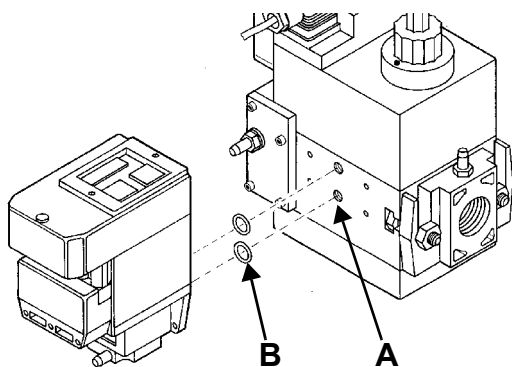
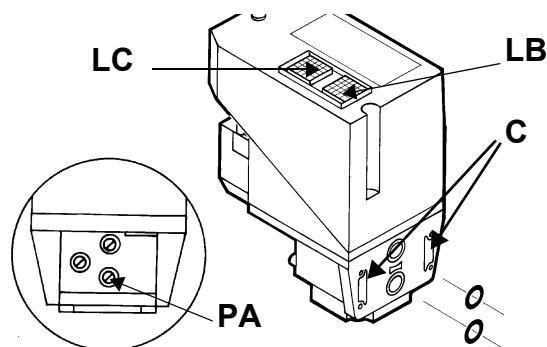

Fig. 10
Fig. 11
- 3 remove the Multibloc screw plugs (Fig. 10-A);
- 4 insert sealing rings (10,5 x 2,25) into VPS 504 (Fig. 10-B - Fig. 11)
- 5 Torque screws 3, 4, 5, 6 (M4 x16) Fig. 11-C
When wishing to monitor the test, install a pressure gauge ranged to that of the pressure supply point **PA** (Fig. 11). If the test cycle is satisfactory, after a few seconds the consent light **LC** (yellow) comes on. In the opposite case the lockout light **LB** (red) comes on. To restart it is necessary to reset the appliance by pressing the illuminated pushbutton **LB**.